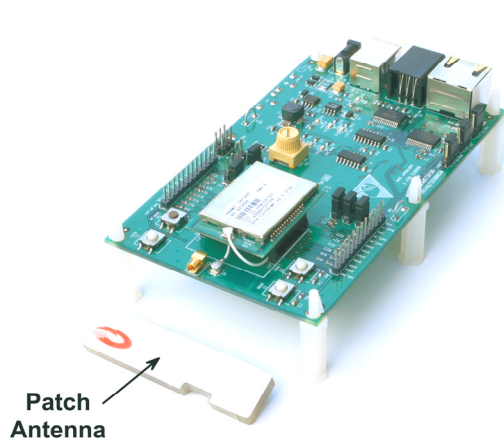
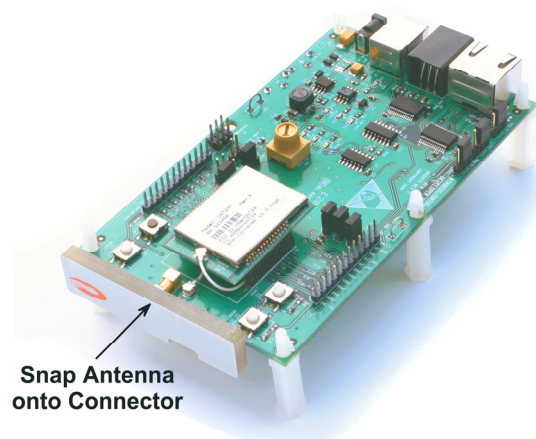

Figure 8.4.1
Figure 8.4.2
1. Figure 8.4.1 shows a DNT24P radio installed on an interface board, and a patch antenna. Observe ESD precautions when handling the kit circuit boards. Install a patch antenna on each interface board by pressing the antenna into the interface board RF connector with moderate pressure until the antenna snaps onto the connector, as shown in Figure 8.4.2. Note that no external antenna is required when using the DNT24PA radios supplied in the DNT24A Kits.